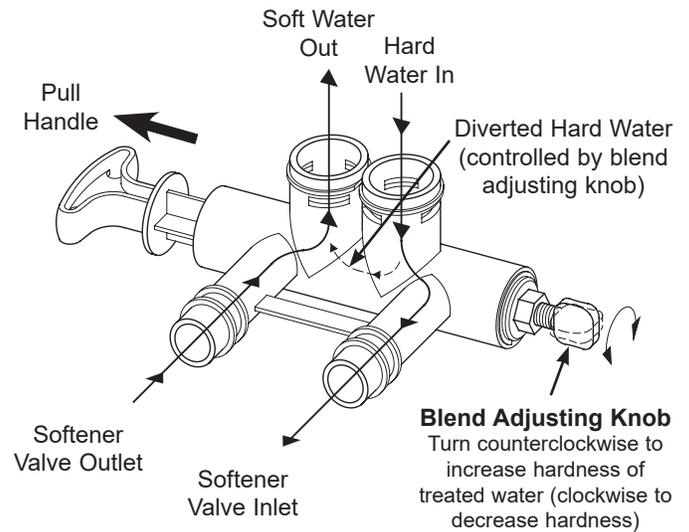

FIG. 102
The bypass blending valve works as a typical push-pull bypass valve, but has the added ability to finely adjust hardness of the treated water leaving the water softener. If slightly harder water is desired than is normally output by the water softener, this bypass blending valve can divert a small stream of hard water before it enters the water softener and blend it with the exiting softened water. The amount of water diverted is controlled by turning a blend adjusting knob on the end cap of the valve stem (See Figure 102).
1. When the bypass valve is in service position (normal softener operation), with handle pulled all the way out (See Figure 102), **increase hardness** of treated water by turning the blend adjusting knob **counterclockwise** up to 6 turns from the fully closed position. While adjusting this knob, hold the bypass valve handle to prevent the stem from rotating.